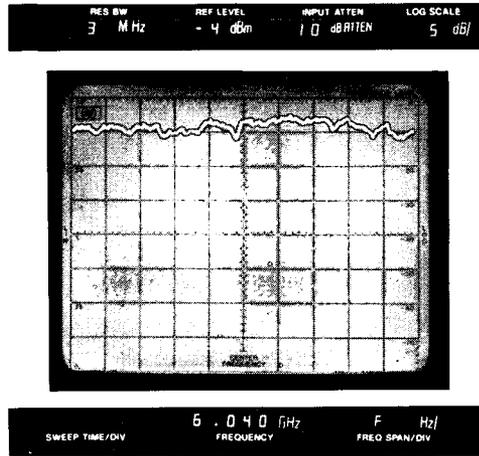

Figure 5-48. Phase Locked Spectrum Analyzer CRT Display
4. Set sweep oscillator to automatic sweep mode and check for phase locked spectrum analyzer CRT display (Figure 5-48). If the system is breaking phase lock, repeat steps d-1 through d-3.